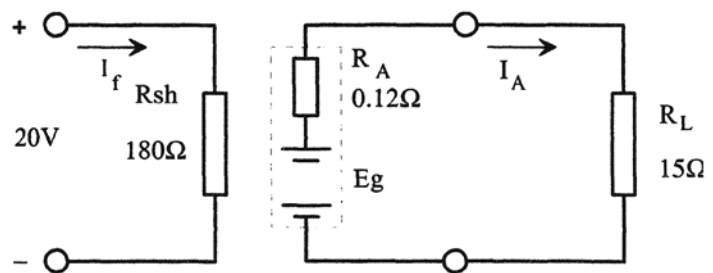

Figure 1
6. The generator shown in figure 1 has a machine constant of 10, and effective flux of 25mWb and is driven at 1000rpm, determine;